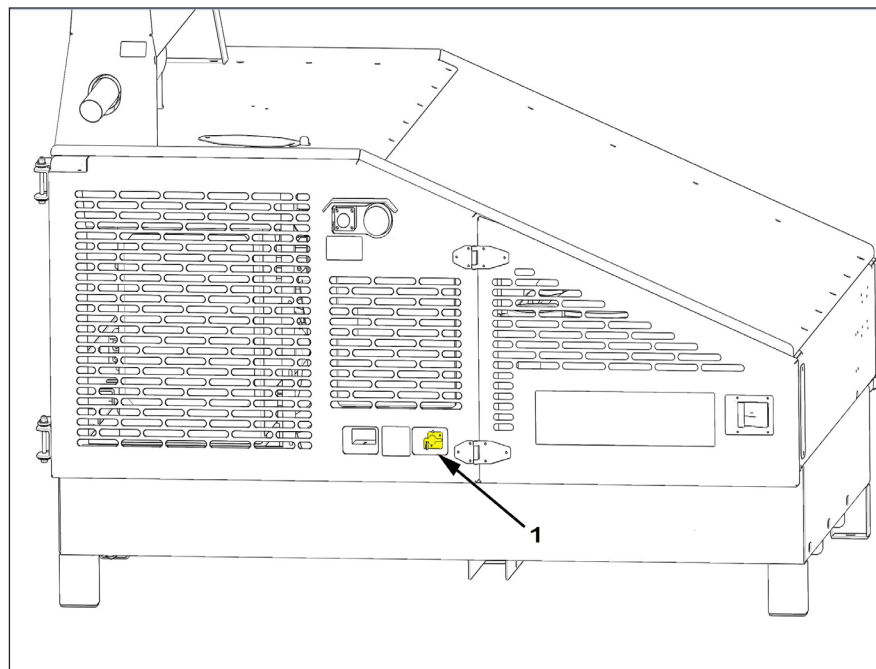

Figure 4.96 - Isolator Switch
2. Make sure the electrical isolator switch is turned on Ref: item 1 Figure 4.96
2. After 20 seconds, rotate the isolator switch from the “ON” position to the “OFF” position, Ref: Figure 4.96.